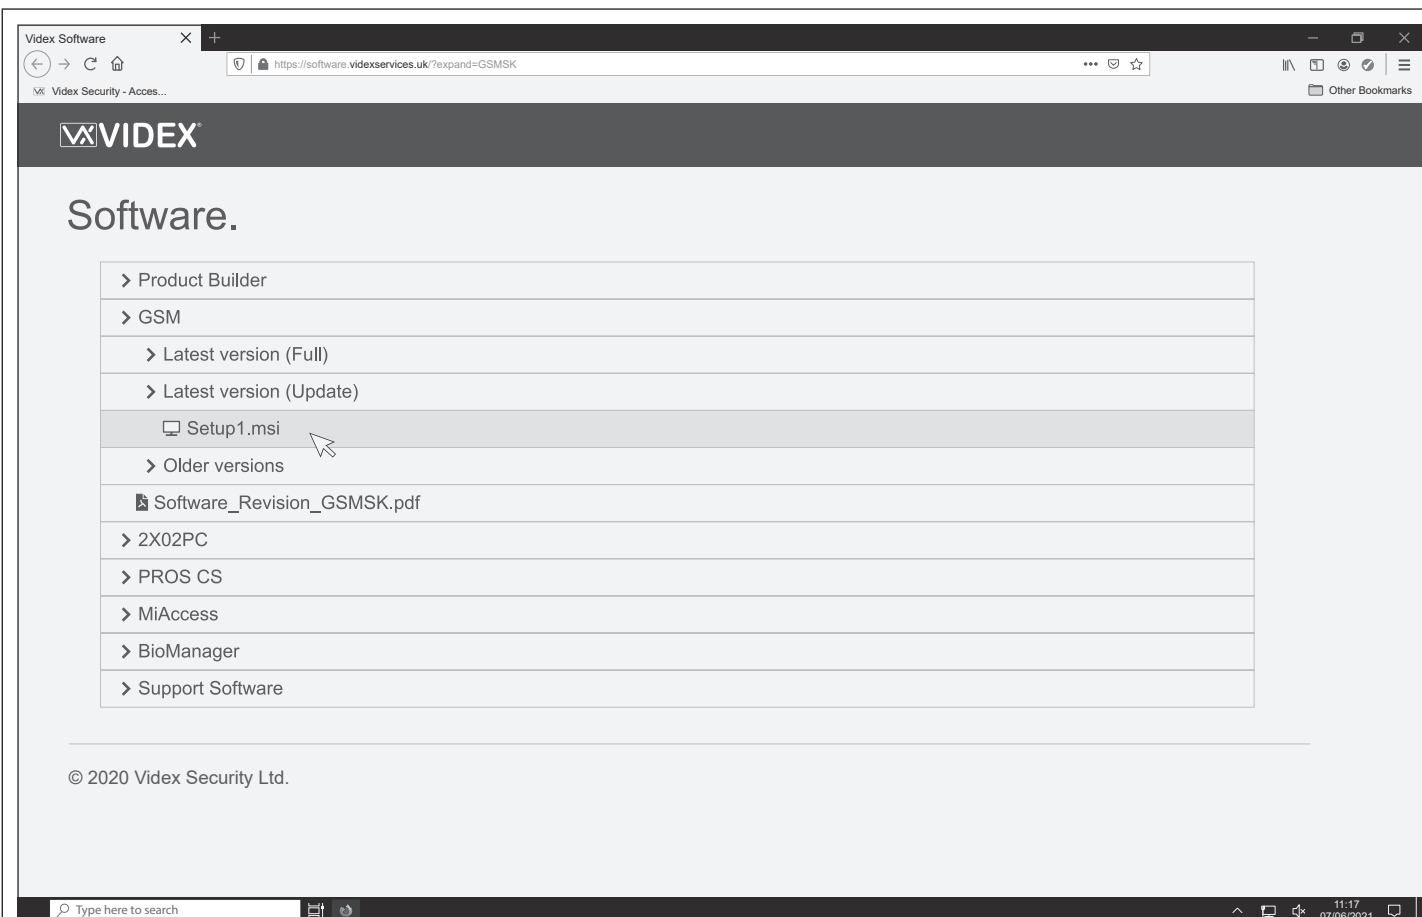

Fig. 3
3. Click on the 'Yes' button to confirm updating the software. This will automatically re-direct you to the **Videx Services Software** webpage, **Fig.3**, via your PC's web browser.